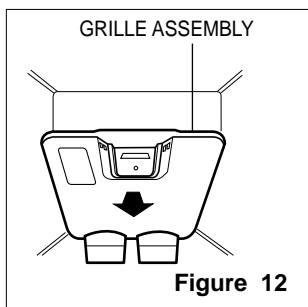

Figure 12
1. Pull out the grille assembly. (Figure 12).